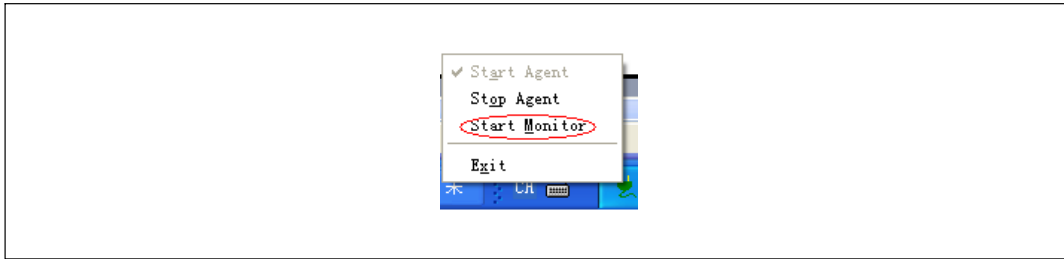

Figure 20. Starting the Monitor
- 2 Start the Monitor. Right click the Dell UPS Management Software Tray Icon and select Start Monitor (see Figure 20).